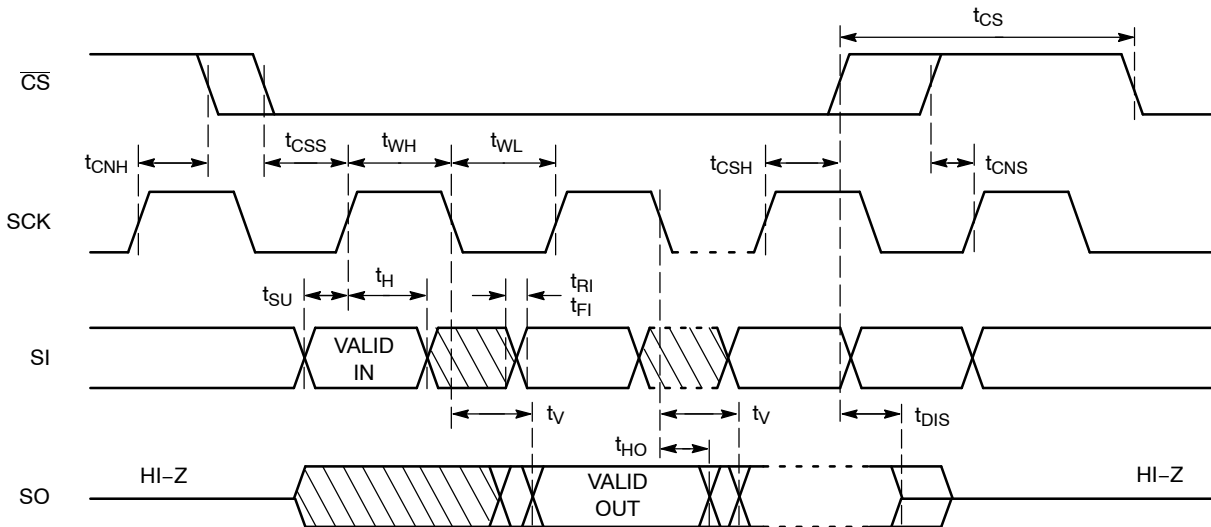

Figure 2. Synchronous Data Timing
7. **All Chip Select (CS) timing parameters are defined relative to the positive clock edge (Figure 2). t_{CSH} timing specification is valid for die revision C and higher. The die revision C is identified by letter "C" or a dedicated marking code on top of the package. For previous product revision (Rev. B) the t_{CSH} is defined relative to the negative clock edge (please refer to data sheet Doc. No. MD-1111 Rev. I)**
After a high to low transition on the $\overline{\text{CS}}$ input pin, the CAT25320 will accept any one of the six instruction op-codes listed in Table 7 and will ignore all other possible 8-bit combinations. The communication protocol follows the timing from Figure 2.